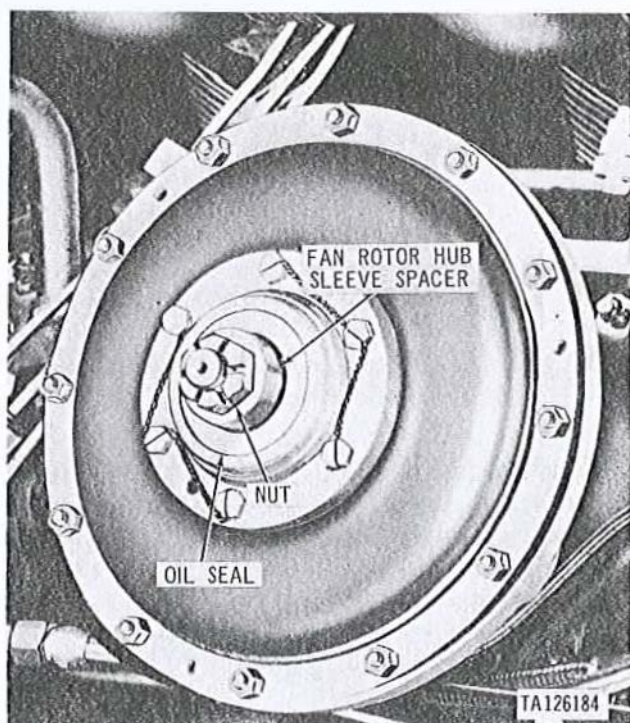

Figure 3-336. Front fan drive housing fan rotor hub sleeve spacer installed for leakage test.
a. Install a fan rotor hub sleeve spacer part number 10882651 (fig. 3-336) on each fan drive vertical driveshaft to prevent oil seepage at fan drive oil seals while operating engines. Secure the sleeve spacer to each drive shaft with the same nut used to secure the cooling fan. Start engine and check for fuel leaks. If leaks are evident, loosen the tube fittings and retighten.
(4) Remove engine cooling fan vanes and cooling fans (para 3-6). Install two fan rotor hub sleeve spacers part number 10882651 (fig. 3-336).